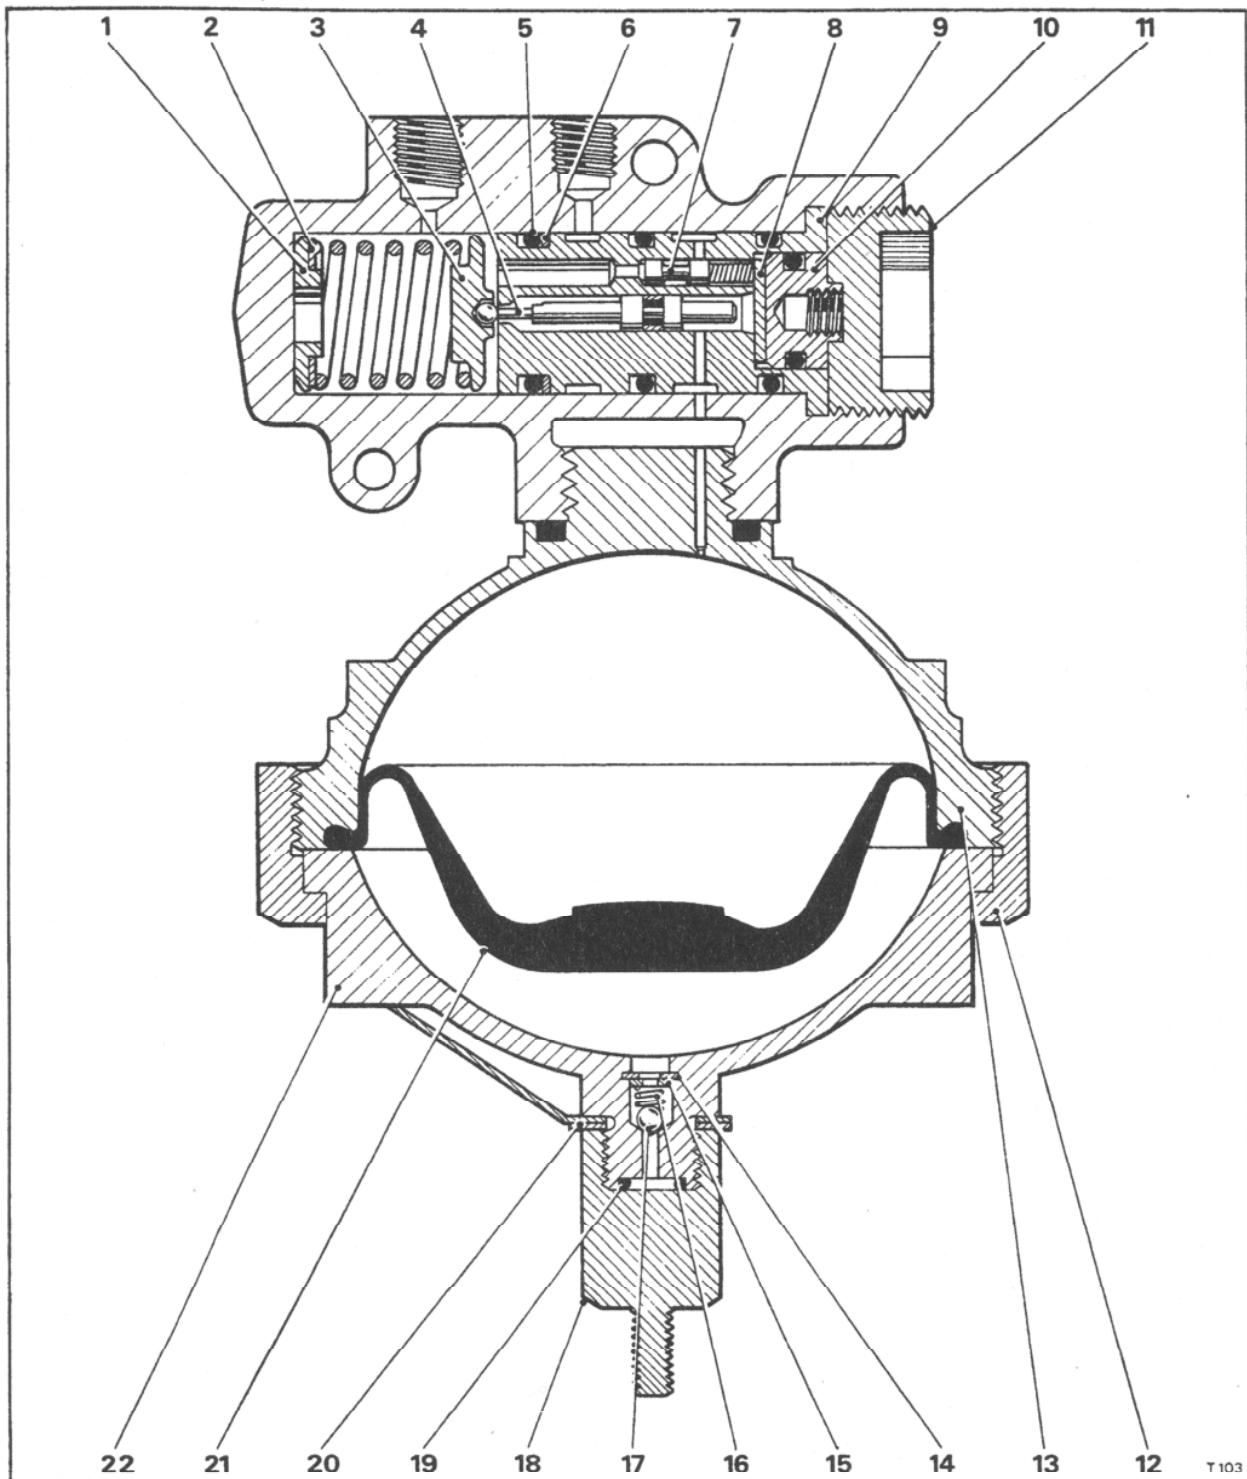

Fig. G12 Hydraulic accumulator
4. Remove the sealing disc, non-return valve and the return spring from the smaller bore of the bobbin (see Fig. G12).
flanged side of the end 'O' ring groove on the bobbin (see Fig. G12).